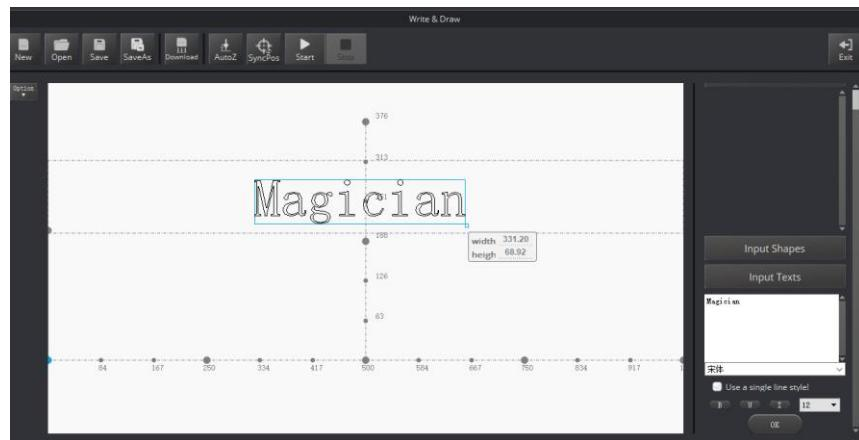

Figure 5.200 Input text
**Step 6** Input text on the **Input Texts** pane and click **OK**, as shown in Figure 5.200.